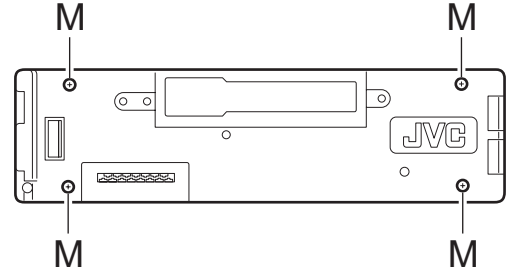

Fig.11
2.1.11 Removing the switch (LCD & key) board (See Fig.11~13)